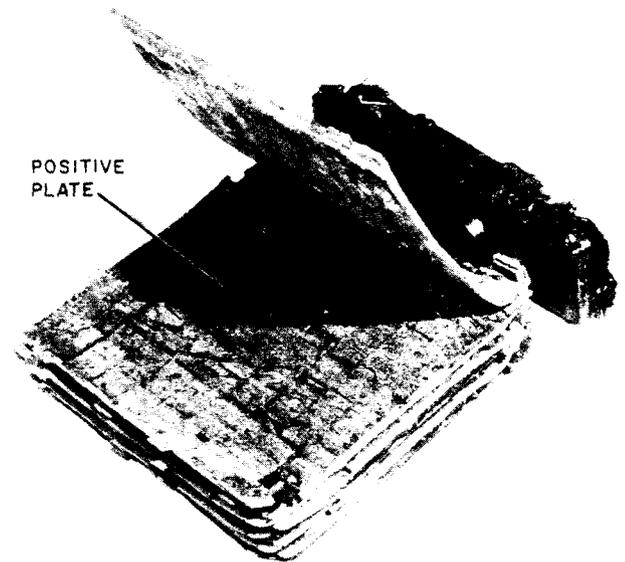

Fig. 3—Plate Damage Caused by Overcharging
3.02 Overcharging, which can be caused by a defective voltage regulator or a regulator setting that is too high, can damage the plates to the point of disintegrating the plate grid wires. A battery that has been subjected to overcharging for extended periods will not deliver maximum current. An example of plate damage caused by overcharging is shown in Fig. 3.